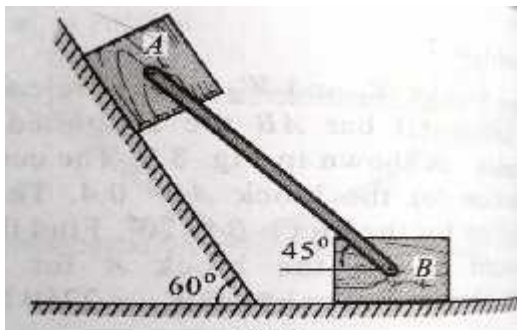

fig:3
3. Two blocks A=100 N and B = W are connected by a rod at their ends by frictionless hinges as shown in fig:3. Find the weight of block B (W) required for limiting equilibrium of the system. Take co-efficient of friction for all sliding surface is 0.3